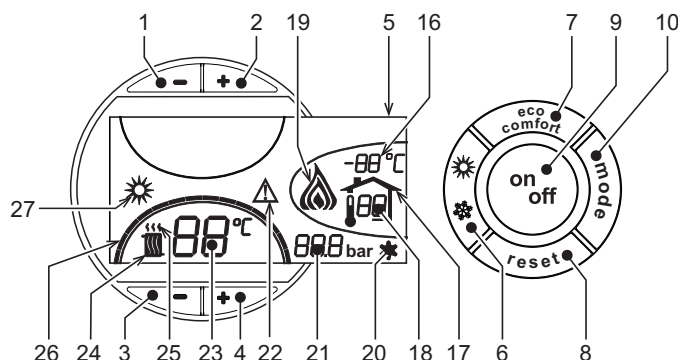
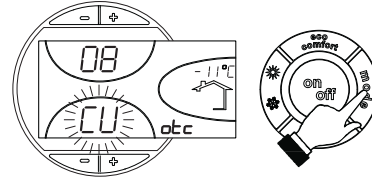
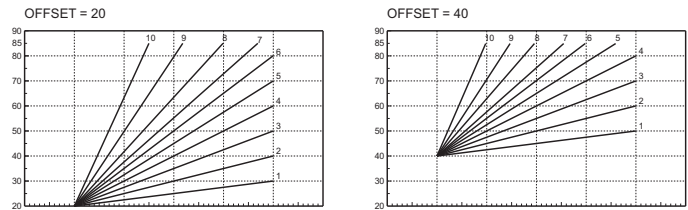

fig. 1 - Control panel
fig. 9 - Compensation curve
fig. 12 - Example of compensation parallel curve offset
Press the on/off button (detail 9 - fig. 1) for 1 second.
When the boiler is turned off, the electronic board is still powered. Heating operation is disabled. The antifreeze system remains activated. To relight the boiler, press the on/off button (detail 9 - fig. 1) again for 1 second.
- Press the ON/OFF button (9 - fig. 1)
Press the **summer/winter** button (detail 6 - fig. 1) for 1 second.
The display activates the Summer symbol (detail 27 - fig. 1): the boiler will only deliver domestic hot water. The antifreeze system remains activated.
To deactivate the Summer mode, press the **summer/winter** button (part. 6 - fig. 1) again for 1 second.
Use the **heating buttons** (details 3 and 4 - fig. 1) to adjust the temperature from a min. of 30°C to a max. of 80°C.
Use the DHW buttons (details 1 and 2 - fig. 1) to adjust the temperature from a min. of 10°C to a max. of 65°C.
When the optional external probe is installed the control panel display (detail 5 - fig. 1) shows the actual outside temperature read by the probe. The boiler control system operates with "Sliding Temperature". In this mode, the temperature of the heating system is adjusted according to the outside weather conditions, in order to ensure high comfort and energy saving throughout the year. In particular, as the outside temperature increases, the system delivery temperature is decreased according to a specific "compensation curve".
With Sliding Temperature adjustment, the temperature set with the heating buttons (details 3 and 4 - fig. 1) becomes the maximum system delivery temperature. It is advisable to set a maximum value to allow system adjustment throughout its useful operating range.
Press the **mode** button (detail 10 - fig. 1) once to display the actual compensation curve (fig. 9), which can be modified with the **DHW buttons** (details 1 and 2 - fig. 1).
Press the **heating buttons** (details 3 and 4 - fig. 1) to access parallel curve offset (fig. 12), modifiable with the **DHW buttons** (details 1 and 2 - fig. 1).
Press the **mode** button (detail 10 - fig. 1) again to exit parallel curve adjustment mode.
If the Remote Timer Control (optional) is connected to the boiler, the above adjustments are managed according to that given in table 1. Also, the control panel display (detail 5 - fig. 1) shows the actual room temperature detected by the Remote Timer Control.
Eco/Comfort selection	On disabling DHW from the Remote Timer Control menu, the boiler selects the Economy mode. In this condition, the button 7 - fig. 1 on the boiler panel is disabled.
On enabling DHW from the Remote Timer Control menu, the boiler selects the Comfort mode. In this condition it is possible select one of the two modes with the button 7 - fig. 1 on the boiler panel.